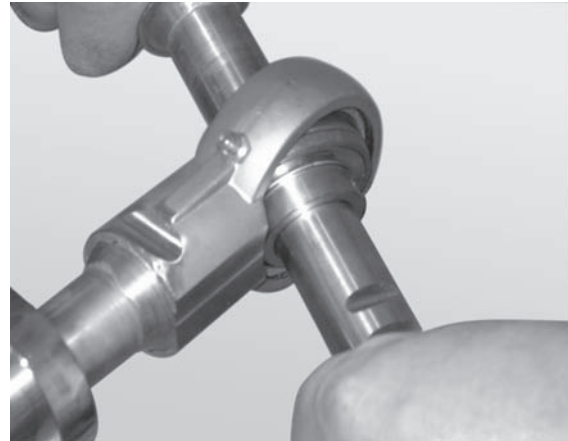

**Figure 70**
3. Install pinch guard shaft (**Figure 70, item 1**) onto pinch guard (**Figure 70, item 2**).
4. Install pinch guard (**Figure 70, item 2**) onto alignment bar (**Figure 70, item 3**), and onto each side of drive spindle (**Figure 70, item 4**).
5. Install bearing shaft assembly (**Figure 70, item 5**) onto rod (**Figure 70, item 1**) and drive spindle (**Figure 70, item 4**). Slide bearing shaft assembly onto the drive spindle on opposite side.
6. Use a hex wrench to install the two set screws (**Figure 70, item 6**). Use a torque wrench to tighten them to 54 in•lbs (6 N•m). Check after 24 hours of conveyor use.
7. Attach the bearing cover onto bearing shaft assembly (**Figure 70, item 5**).